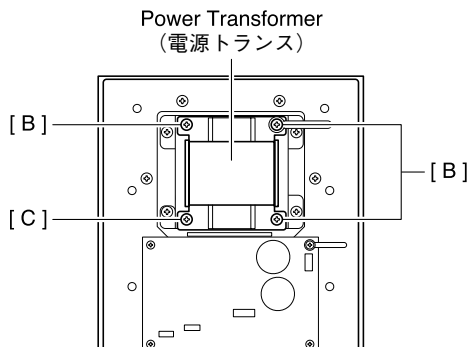

Fig. 4 (図 4)
- 4-2 Remove the three (3) screws marked [B] and screw marked [C]. The power transformer can then be removed. (Fig. 4)
- 4-2 [B]のネジ3本、[C]のネジを外し、電源トランスを外します。(図4)
- 5-2 Remove the three (3) screws marked [B] and screw marked [C]. The power transformer can then be removed. (Fig. 4)
- 5-2 [B]のネジ3本と[C]のネジを外し、電源トランスを外します。(図4)